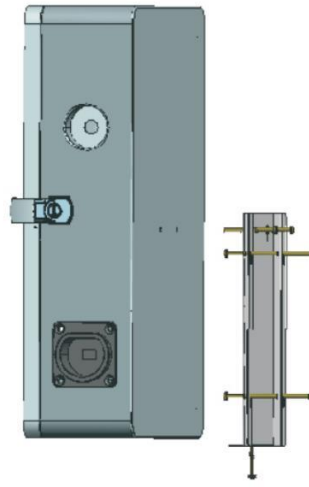

Figure 4-1. Mounting brackets
1. Secure the Charging Station mounting bracket to the wall using four 6*50 expansion screws and bracket holes. Power cables can be connected from the upside as in figure 4-1
2. See Figure 4-1. Screw two M6*10 hexagon socket cap screws to the back of the box, and mounting to the bracket.